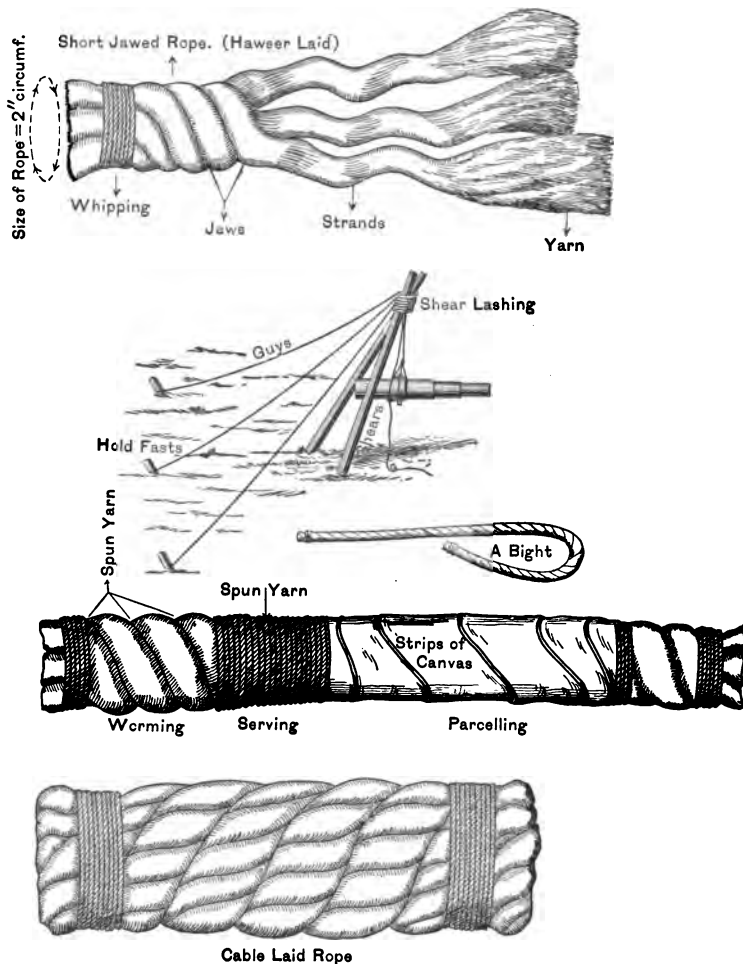

FIG. 44.
A. Cable-laid rope is composed of nine strands, and is made by first laying up three ropes of three strands each with the sun, and then laying the three ropes together into one, against the sun. Hawser-laid rope must be coiled with the sun. Hawser-laid rope is a right-handed sope, and cable-laid is therefore left-handed. (See Fig. 44.)
A. The size of the rope is always denoted in inches and fractions, and is measured on the circumference. (See Fig. 44.)
A. (a) Worming a rope is filling up the divisions between the strands by passing spun-yarn along them. (b) This is to render the surface smooth for parceling and serving. (See Fig. 44.)
A. (a) Parceling rope is wrapping narrow strips of canvas about it, well tarred, put on with the lay of the rope. (b) To secure it from being injured by rain-water or to prevent chafing or cutting of a rope when a strain is brought against a rough surface or sharp edge. (See Fig. 44.)
the surface very uneven. But a large rope is always wormed and parceled before being served. (b) The service is put on against the lay of the rope. (See Fig. 44.)
(b) To prevent it from fraying out. (See Fig. 44.)
treble block, and one snatch-block for the main-tackle fall; guys, head-lashing, heel-lashing, and straps for main tackle; snatch-block, holdfasts, and some spun-yarn for mousing, etc.; two cleats for heels to prevent lashing from slipping; stakes for holdfasts for guys and heel-posts; two shoes for heels. (See Fig. 44.)